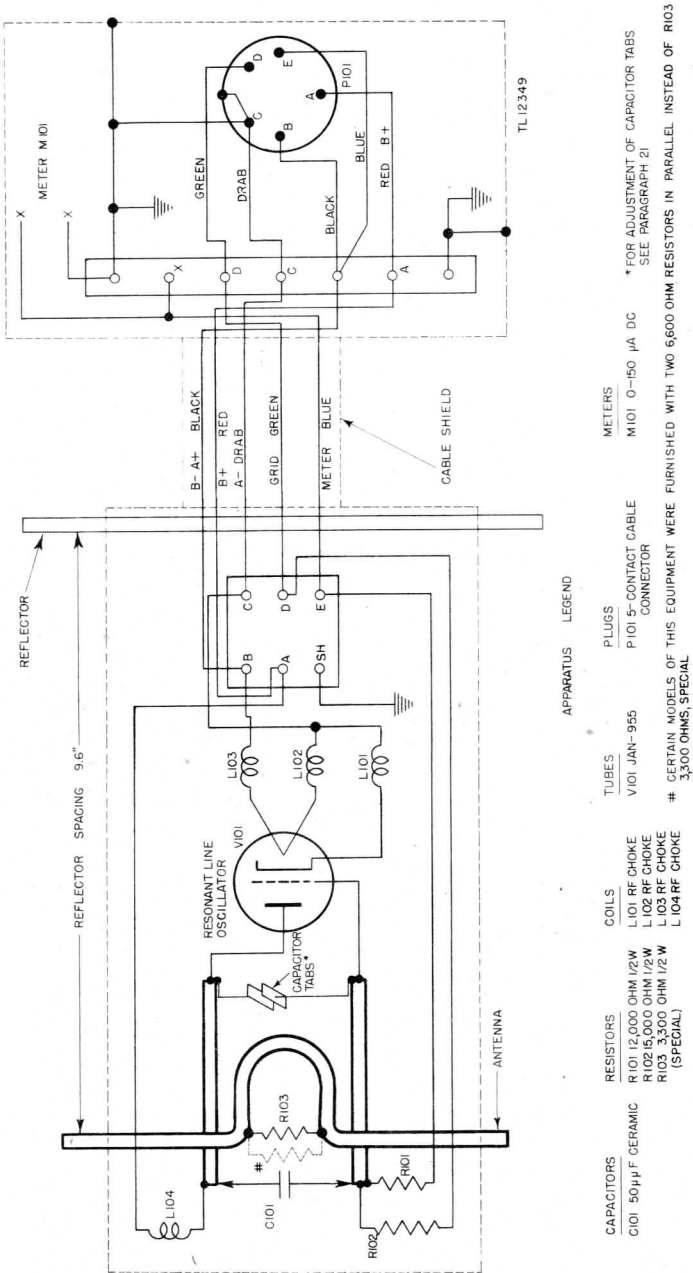

Figure 13. Detector Head Assembly DT-5/PRS-1, circuit diagram.
12. **RESONANT-LINE OSCILLATOR CIRCUIT.** In the following description refer to figure 13 for the circuit diagram of the resonant-line oscillator. Triode Tube JAN-955 (V101) is used in a resonant-line oscillator circuit. The tank circuit of the resonant-line oscillator is a quarter-wave, two-conductor line. The operating frequency is determined by the position on the resonant line of the shunting capacitor C101 and by the